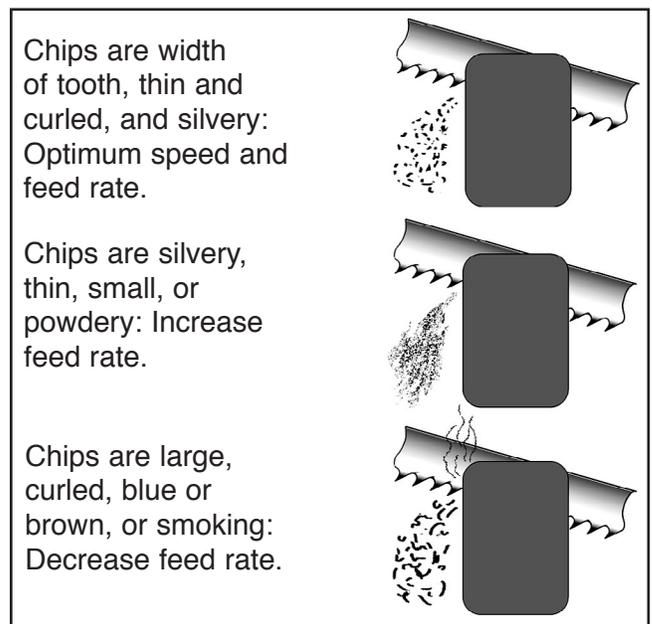

Figure 24. Reading chip characteristics.
7. Observe the chips that exit the cut, and increase or decrease the feed rate according to the chip characteristics (see **Figure 24**).